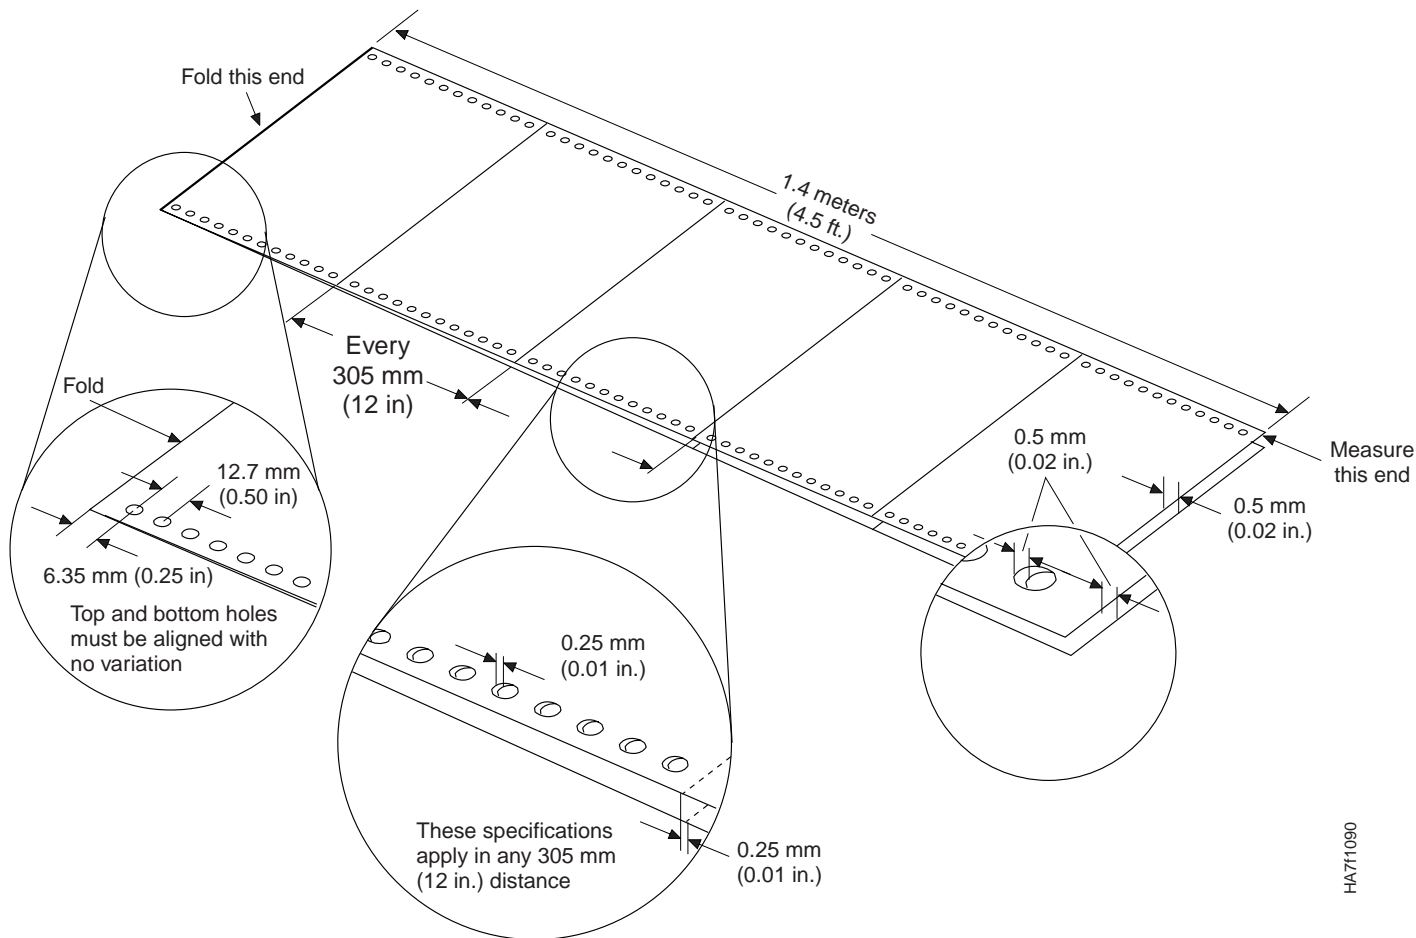

Figure 9. Perforation Accuracy
3. Measure the distance from either the edge or the tractor hole of the first sheet to those on the last sheet, as shown in Figure 9 on page 34.
4. Refer to Figure 9 on page 34 and measure along each edge to verify that in **any** 305 mm (12 in.) of forms, the distance from either the edge of the tractor holes or the page perforations on the top sheet to the edge of the holes or the page perforations on the bottom sheet does not exceed 0.25 mm (0.01 in.).